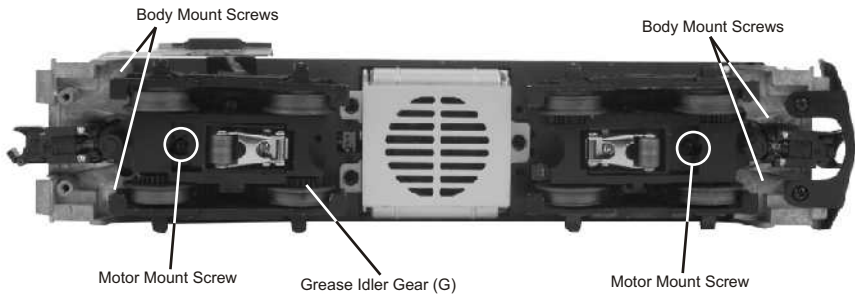

Figure 3. Body Removal Screw Locations (Turn truck blocks to access body mount screws)
1. To access the gear box, remove the cab from the chassis by unscrewing the body mount screws as seen in Figure 3 and lifting the cab from the chassis.
2. Once the cab is removed, remove the trucks by unscrewing the black Phillips motor mount screw located on the underside of the drive trucks (see Fig. 3).
First, remove the truck sides from the truck block. To do this, turn your engine upside down. If there are visible Phillips screw heads between the truck frame and truck block (see Fig. 3), go to step A. If not, go to step B.